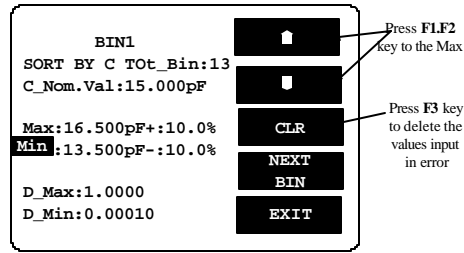

Figure 8-19
- Press \square key. Please refer to Figure 8-19 below.